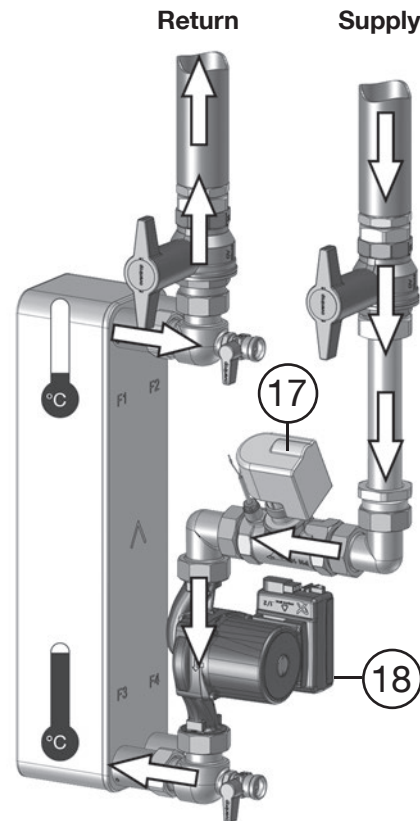
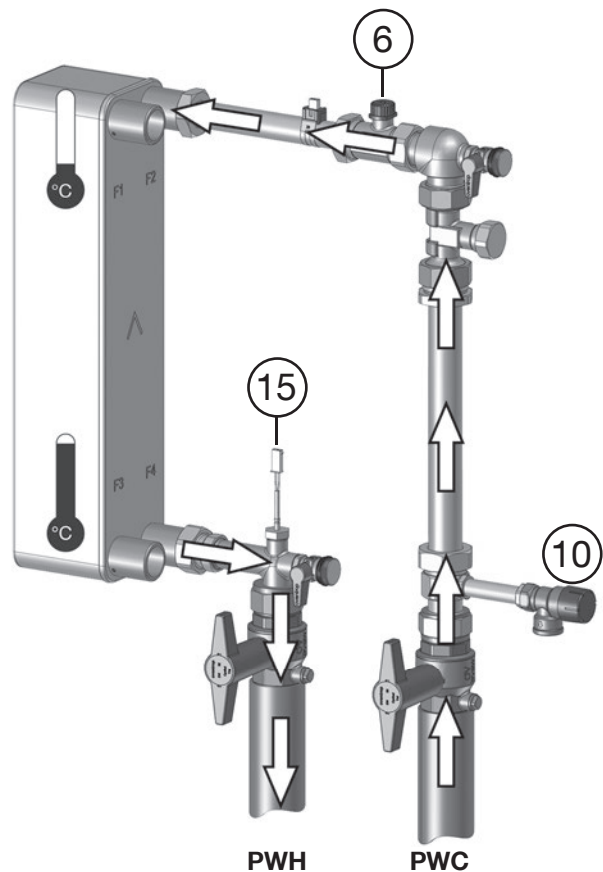

Fig. 3.2: Storage cylinder circuit side with supply from and return to the buffer storage cylinder
Fig. 3.3: Potable water side with hot water supply (PWH) and cold water connection (PWC)
With a given potable water temperature of 60 °C and a storage cylinder temperature of 80 °C, the hot potable water discharge capacity may vary between 1 and 80 l/min. The hot potable water supply is regulated by the controller (Fig. 3.1, pos. 1) which adjusts the pump (Fig. 3.2, pos. 18) to a (variable) speed in order to feed heating water from the connected buffer storage cylinder into the heat exchanger according to requirements. On the basis of the actual volume flow and temperature (of the potable water) detected by the sensors 6 and 15 (Fig. 3.3), the controller calculates the pump speed which is necessary to achieve the required potable water temperature and switches the throttling valve if required (see below).
i The station allows for a heat supply according to requirements even with very low potable water consumption. The minimum delivery capacity of the pump (18) is reduced even further by the **throttling valve** (Fig. 3.2, pos. 17) integrated in the storage cylinder circuit. The valve closes from a draw off capacity of approx. 20 l/min.